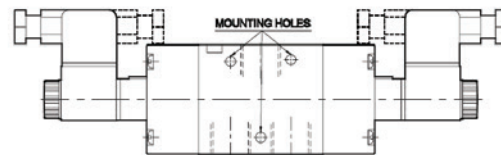

Fig 2
- 5) Fig.2 shows the holes for mounting with any other surface.
Before starting the installation, it is essential to verify that the solenoid valve is suitable and safe for the desired application. For this, carefully read the user manual and safety instructions associated with the brand and type of the valve. Check the valve properties on the type label and verify if the specifications match the application's requirements. Figure 1 shows an example of type labels on the coil (Figure 1) and valve (Figure 2)